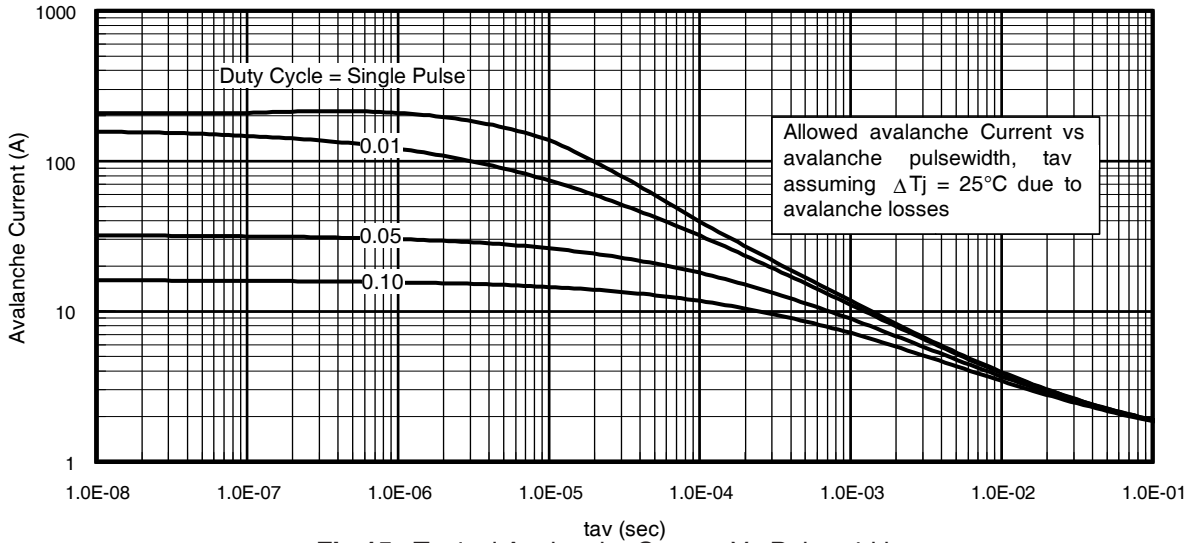

Fig 15. Typical Avalanche Current Vs.Pulsewidth
**Notes on Repetitive Avalanche Curves , Figures 15, 16:**
7.  $\Delta T$  = Allowable rise in junction temperature, not to exceed  $T_{jmax}$  (assumed as  $25^\circ\text{C}$  in Figure 15, 16).